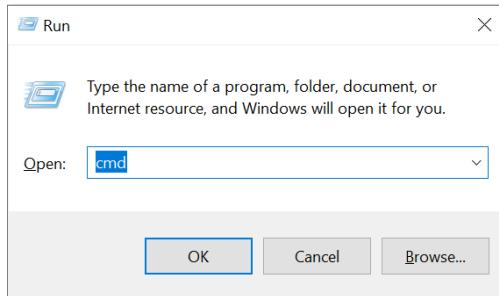

Figure 3.29: Launching the Command Prompt on Windows
1. Launch the Command Prompt. Press the Windows key+R together. A window, as shown in Fig. 3.29 appears. In the text box adjacent to Open, type cmd,
1. Launch the Command Prompt, as shown in Fig. 3.29.